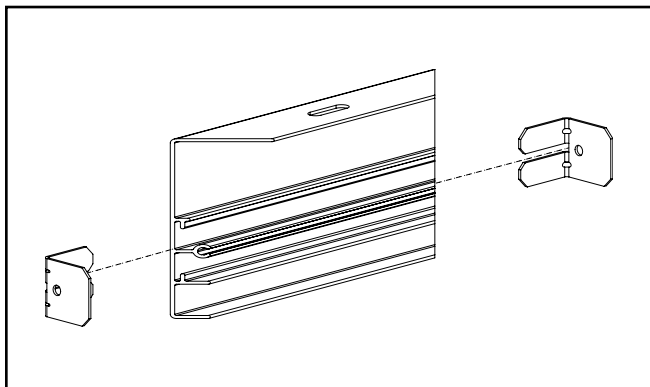

Figure 1.
- A1. Insert 1 L-bracket into the slot on each side of both short rails as shown in Figure 1.